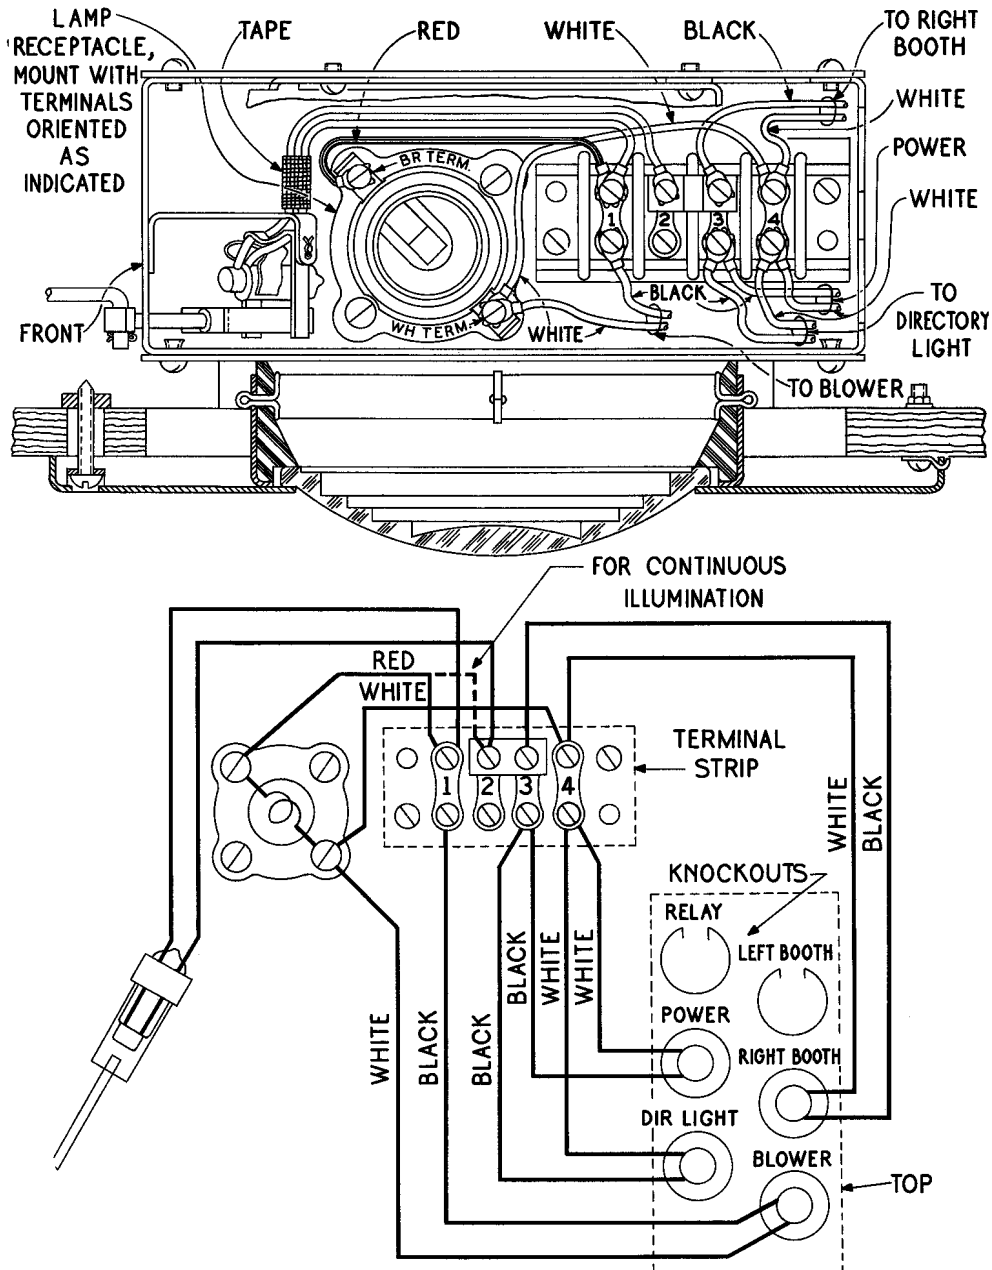

Fig. 5 — 4A Light Fixture for Four Cables
3.04 At the 4-type light fixture, make connections as shown in Fig. 5. Connect each cable shown only when required. Spade terminals shall be inserted squarely and to their full depth into the slot to provide maximum separation between terminals. The lamp is under control of the booth door. To obtain continuous illumination in the booth, connect red strap lead from lamp socket to terminal 2 instead of terminal 1 on the light fixture terminal strip.